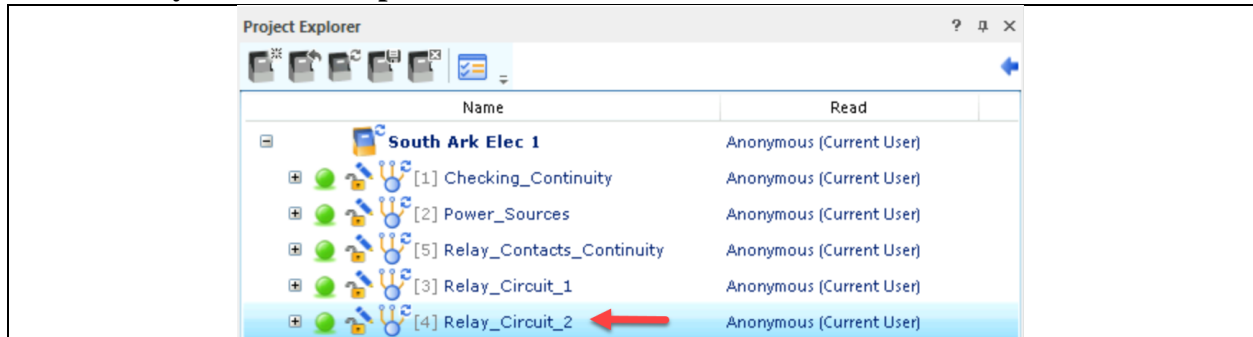

Figure 14. Navigating to the Relay_Circuit_2 document.
1. Navigate to the Power_Sources document in the project as shown in Figure 14.